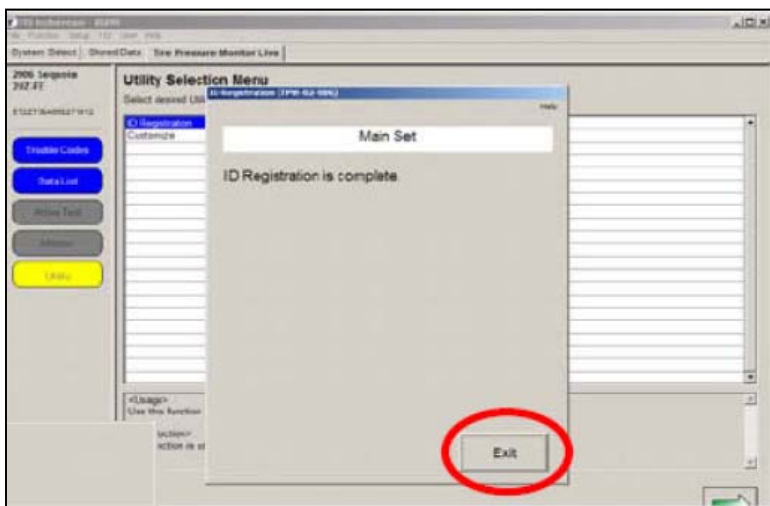

Figure 14h
- k. After all TPMS ID have been registered, click “Exit” to end the registration process. See Figure 14h.